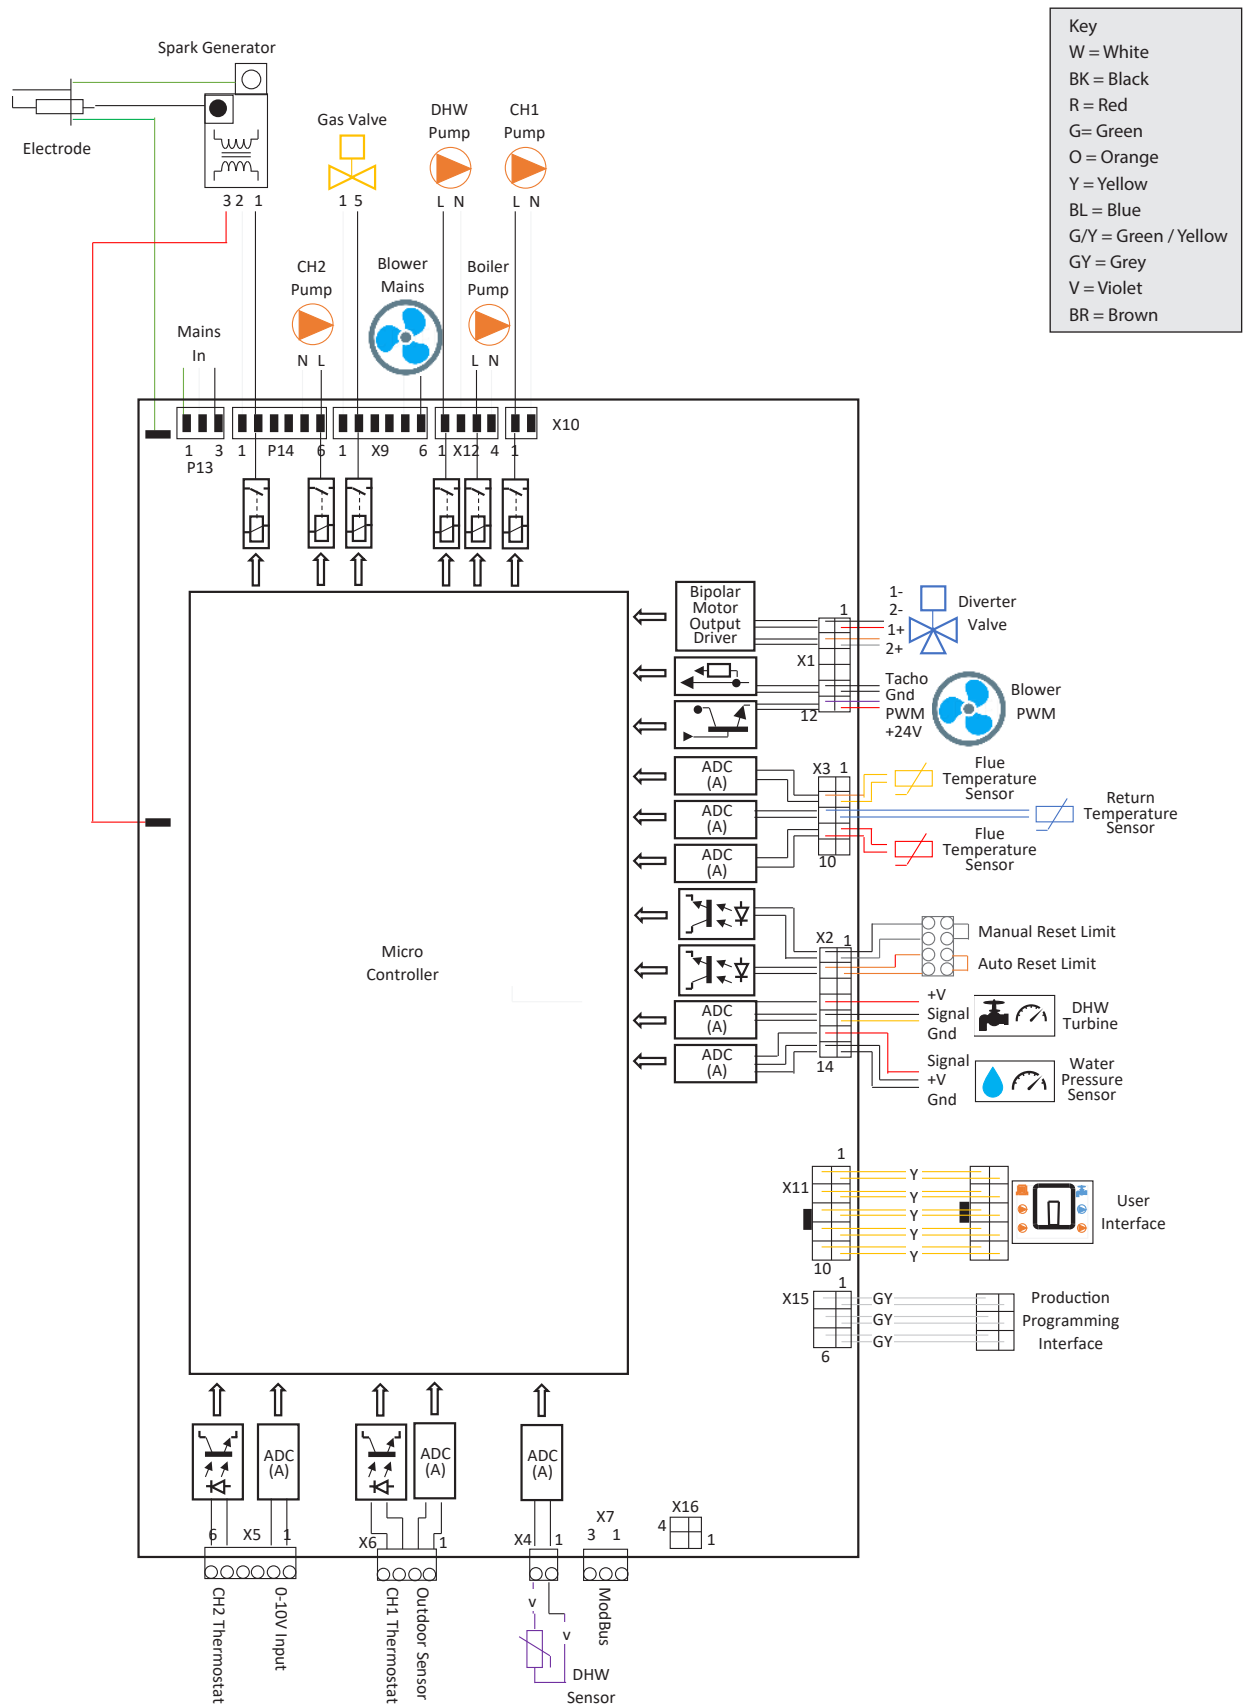

Fig. 24 - Ladder Diagram
- A 2.5A fuse is also located on the terminal strip, to protect the outputs. Refer to *Fig. 24 on page 40*.
1. Connect a dedicated 120 VAC/15A service to the line voltage terminals located internally in the lower left corner, as shown in *Fig. 24 below*.
2. Connect the CH1 & CH2 circulator wiring to the respective line voltage terminals located internally in the lower left corner, as shown in *Fig. 24 on the left*. This circulator is typically used to supply heat to the central/space heating loop.
3. Connect the DHW circulator wiring to the line voltage terminals located internally in the lower left corner, as shown in *Fig. 24 on the left*. This circulator is typically used to supply heat to an indirect hot water heater.
4. Connect the boiler system pump wiring to the line voltage terminals located internally in the lower left corner, as shown in *Fig. 24 on the left*.